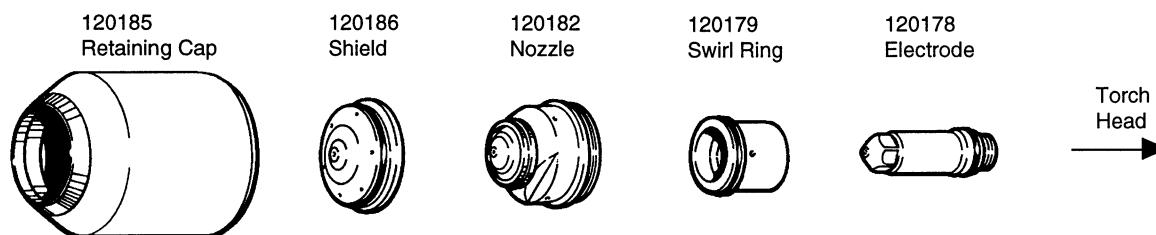

Figure 10 HT2000 50-Amp Consumables
2. Install 50-Amp consumables into the torch head in the order and orientation as shown in Fig. 10.